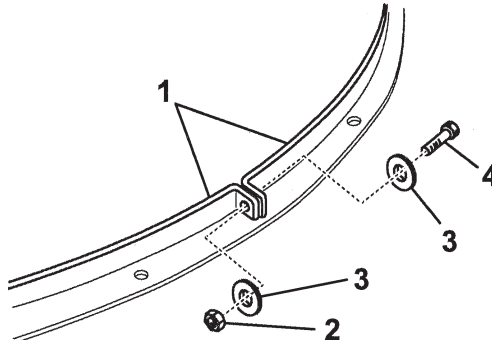

Figure 20
9. Remove the bolt, washer, and nut that secure the 2 strap ends together (Figure 20).
13. Join the 2 strap ends around the Recycler cover as shown (Figure 20).
8. Remove the bolt, washer, and nut that secure the 2 strap ends together (Figure 20).
14. Join the 2 strap ends around the discharge chute as shown in Figure 20.
15. Align the holes in the strap ends and fasten them together snugly with the bolt, washer, and nut you previously removed (Figure 20).